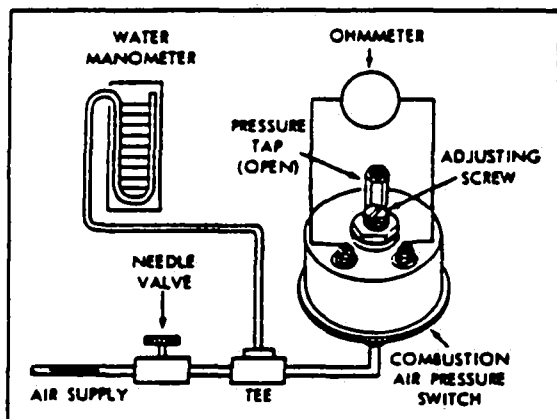
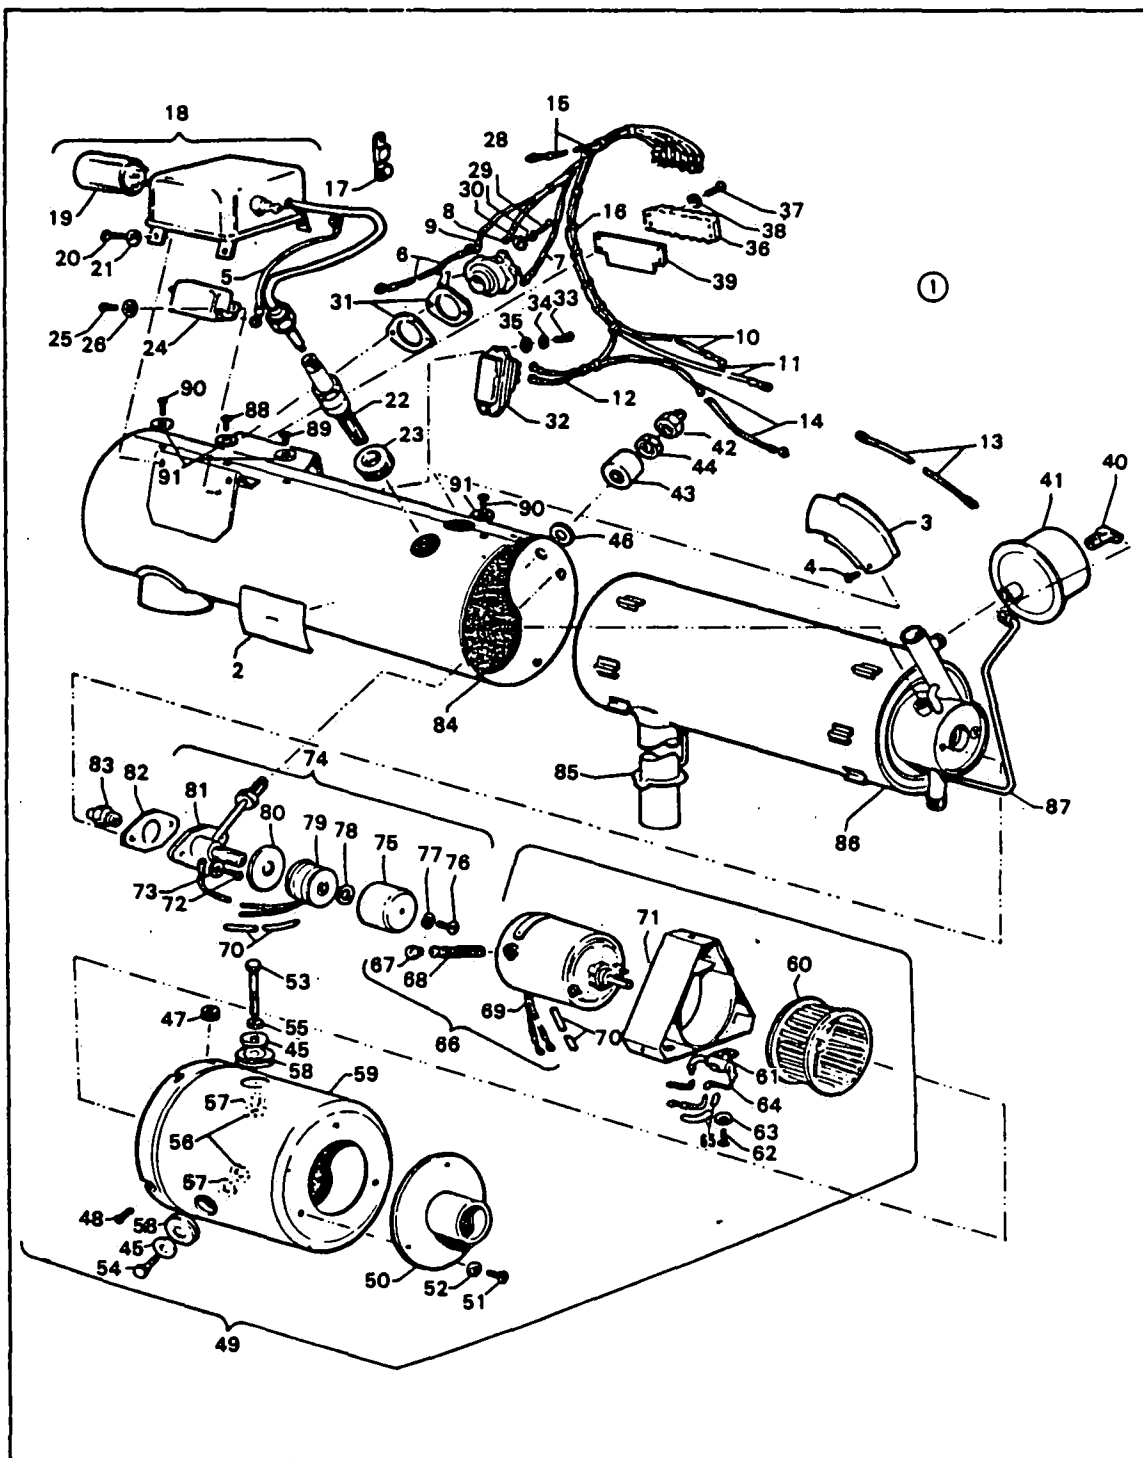

Figure 13-24. Test Set-Up for Combustion Air Pressure Switch
Figure 13-25. Exploded View of Heater Assembly No. 751 959
(Refer to Figure 13-25.)
**13-112. INSPECTION OF REMAINING COMPONENTS. (Refer to Figure 13-25.)**
a. Discard all rubber parts such as grommets, gaskets, etc. These items should always be replaced at overhaul. Also discard the rope gasket (85).
d. The combustion air pressure switch (41) must respond to delicate pressure changes and should always be checked and/or replaced at overhaul. (Refer to Paragraph 13-113, c, and Figure 13-24.)
f. Inspect the ignition assembly (18, Figure 13-25) for dented case, loose or damaged primary terminal insulator and broken or obviously damaged high-voltage lead. Give particular attention to the condition of the spring connector at the end of the lead. If the spring is burned off, visibly eroded, or carbon tracked, the ignition assembly should be replaced.
1. Connect an adjustable air pressure line that can be controlled in a range of zero to 5.0 psi (maximum) of water to the switch opening with a water manometer and needle valve in the line ahead of switch. Switch must be tested in 45-degree position as shown in Figure 13-24.
e. Spray test the nozzle (83, Figure 13-25) as follows:
#### 13-115. REASSEMBLY. (Refer to Figure 13-25.)
← Legend for Figure 13-25.